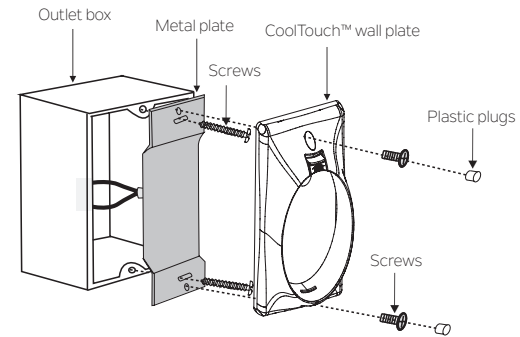

Fig. 26
**Step 2.** Install the metal plate and CoolTouch™ wall plate to the existing wall outlet box with 4 screws provided. Then place the two plastic plugs into the wall plate. (Fig. 26)